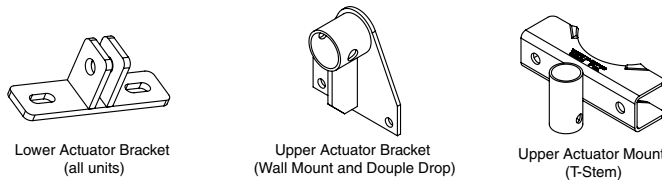

Figure 1
- ① Manually crank backboard down to lowest height (this takes the weight off the unit; do not attempt to retrofit with backboard at normal 10' height).
- ② Remove the Threaded Rod Assembly and Nut Carrier Assembly.
- ③ Attach brackets for electric operator (see Fig. 1). Upper Actuator Bracket attaches to T-Stem or frame of non-T backstop so that the center of the bracket is 12'10 $\frac{1}{2}$ " above the finished floor for rectangular backboards, and 12'11 $\frac{3}{4}$ " for fan backboards. Lower Actuator Bracket attaches to lower plate of 8'-10' unit.
- ① Lower backboard to lowest height (this takes the weight off the unit; do not attempt to retrofit with backboard at normal 10' height).
- ② Beginning at the bottom of the unit, remove brackets which are holding Electric Operator and Actuator Tube to the Height Adjuster (see Fig. 1).